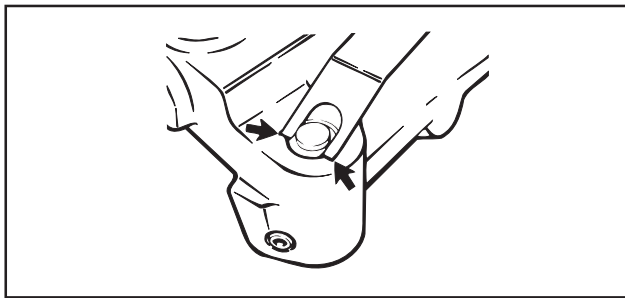

Figure 3
9. Reinstall the master piston into the bore. Install new flat spring (10), washer (5) and hex screw (11). Make sure the flat spring is centered on the master piston and torque to 7 lb-ft (10 N•m). See figure 3.